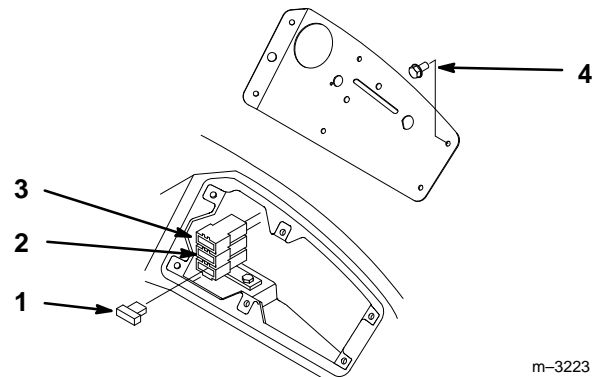

Figure 36
1. Remove dash panel screws to gain access to fuse holder (Fig. 36).
2. To replace fuses pull out on the fuse to remove it (Fig. 36).